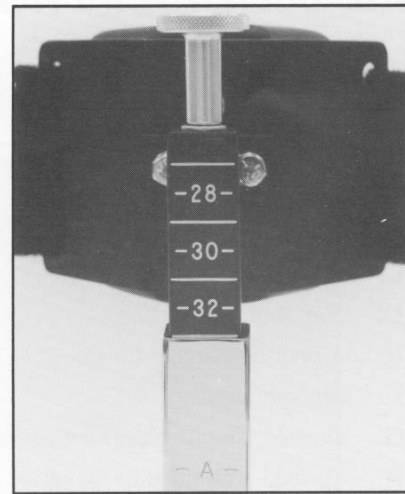

Figure 14
2. The distance from the top edge of the upper pad to the bottom edge of the lower pad must be set to match this measurement. The white numbers on the black inside tube assembly (B) are used to set this distance.
To set this overall pad-to-pad distance, loosen the knurled aluminum locking knob (A) on the top of the black inside tube assembly (B) by turning the knob counterclockwise (CCW). Slide the tube assembly up or down as necessary, until the correct distance marking appears at the top edge of the chrome outside tube (F). See Fig. 14.